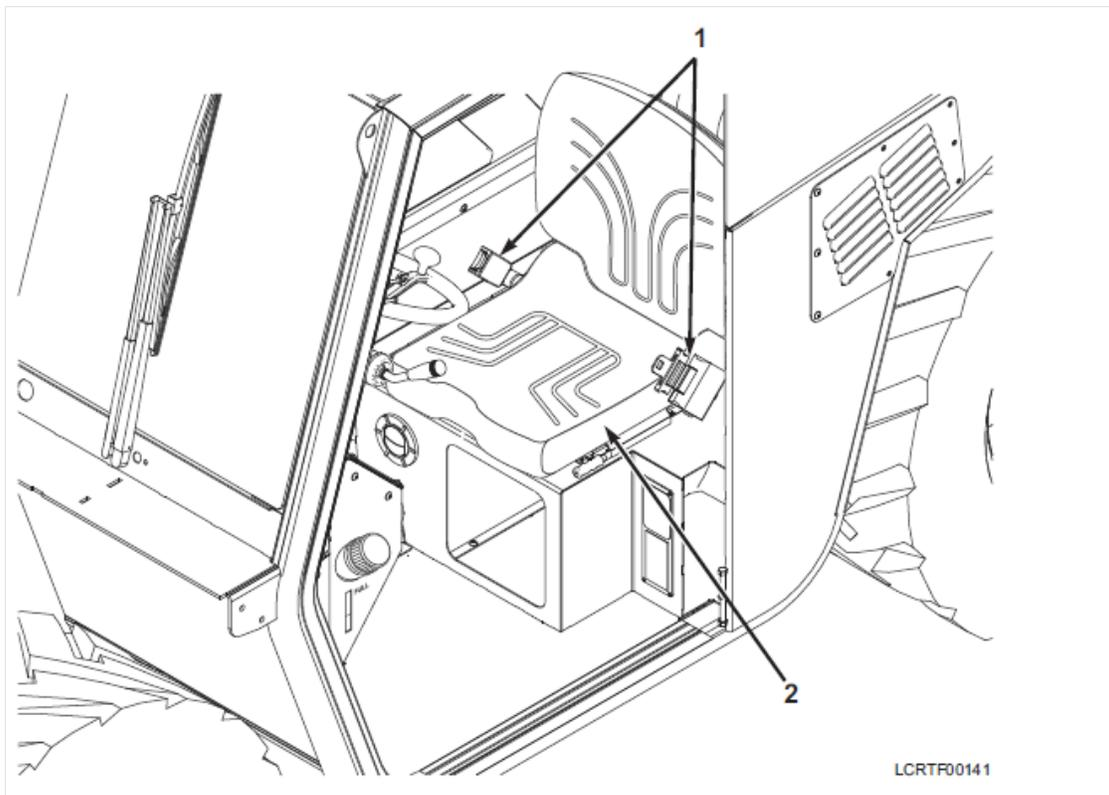

Figure 1-2
b. Fasten seat belt (see Figure 1-2, Item 1).
c. Adjust operator seat so that when seat belt is buckled, foot pedals can still be operated (see Figure 1-2, Item 2).